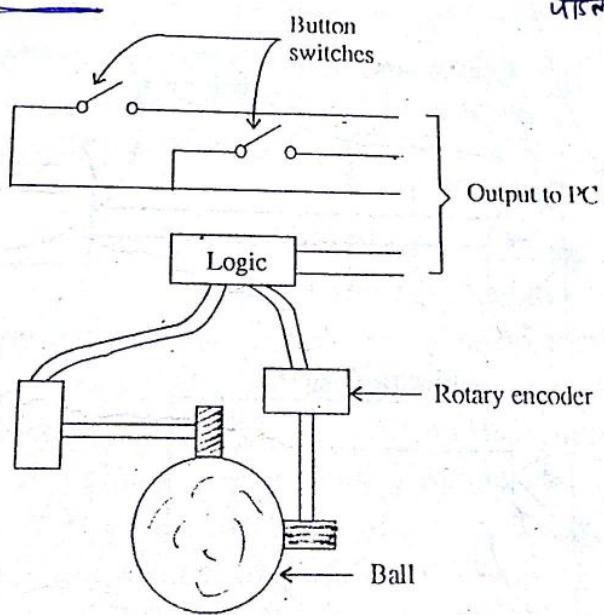

Fig. 1.11 Mouse (optomechanical)
**Working or Principle of operation :** The working of mouse is shown in Fig. 1.11. A small rubber ball protrudes through the base of the device. This ball is resting against two rollers one for translating the X axis movement and the other for the Y axis, the rotation of the rubber ball is transmitted to these two rollers, which are positioned at right angles to one another. The rubber ball is kept in contact with rubber by means of a spring loaded rubber. The amount and direction of rotation transmitted to each roller varies, depending upon the direction of movement of the mouse. Each roller is driving a rotary encoder. A rotary encoder is a small wheel which is containing perforations. The light from light emitting diode is passed through these perforations and is interrupted as the wheel rotates. The interrupted light beam is converted into electrical pulses by means of a photo detector.